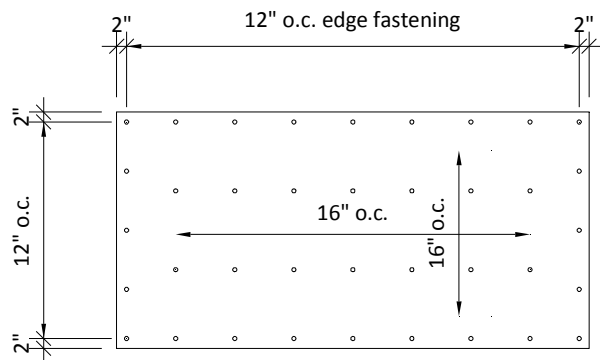

Fig. 6 - Fastener Spacing Diagram
3. Fastener spacing is typically 12" on center along all edges of the panel and 16" on center throughout the middle of the panel. To ensure that the edges do not become damaged fasteners should remain a minimum 2" from panel edges. See fig. 6